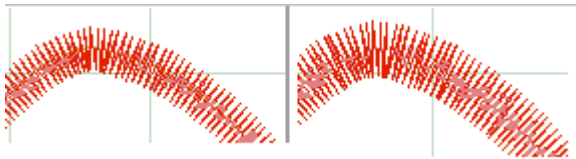

Fig 2. Pull-compensation of 0.5mm (on the right) added to a satin stitch (original on left).
It may be desirable to add "pull-compensation" to parts (or all) of a pattern to (1) increase the width of satin stitches; (2) to counteract "pulling" of the underlying fabric; or (3) for visual effect, such as making lettering appear bolder. The amount of compensation added to the start and end of each satin row is given in embroidery points (0.1 mm units). So the value of "8" entered in Fig. 1 indicates a total of 1.6 mm (2 X 0.8) will be added to each row of satin stitches for the selected color stops. Fig. 2 shows this widening effect on a satin stitch of adding pull-compensation of 0.5 mm.